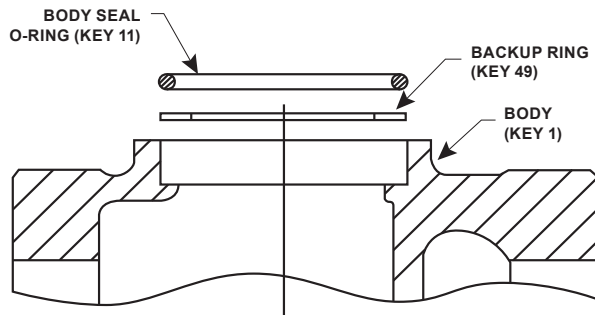

Figure 5. Expanded View of the Body Area Showing the Body Seal O-ring and Backup Ring Placement
1. Remove the cap screws (key 2) and separate the diaphragm casing (key 4) from the body (key 1).
2. Remove and inspect the body seal O-ring (key 11) and the backup ring (key 49). See Figure 5.
3. Inspect and replace the orifice (key 5) if necessary. Protect the orifice seating surface during disassembly and assembly. Lubricate the threads of the replacement orifice with a good grade of light grease and install with 340 to 470 in-lbs / 38.5 to 53.1 N•m of torque.
4. Remove the cotter pin (key 15) to replace the disk assembly (key 13). If not necessary, skip to step 8.
8. Place back-up ring (key 49) into the body (key 1). Then place the body seal O-ring (key 11) into the body. See Figure 5.
9. Place the diaphragm casing (key 4) on the body (key 1). Secure the diaphragm casing to the body with the cap screws (key 2) using 90 to 126 in-lbs / 10.2 to 14.2 N•m of torque.